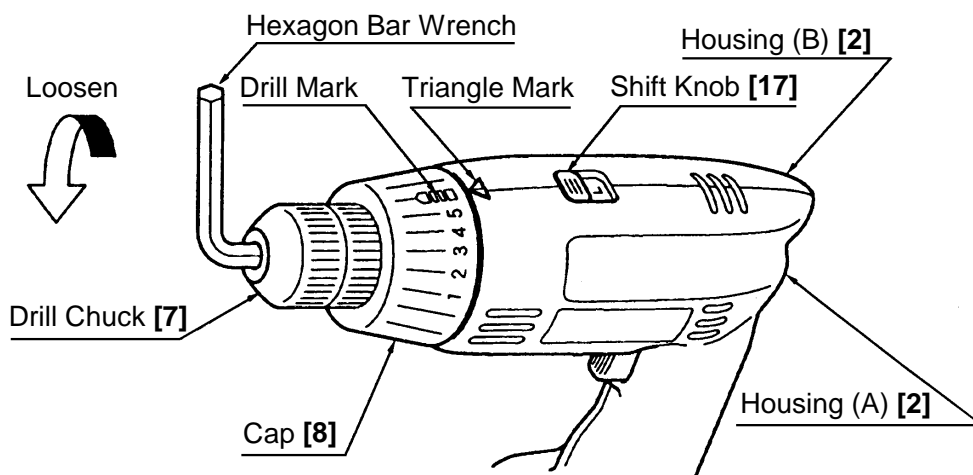

Fig. 7
(1) Removing the Drill Chuck **[7]**. (See Fig.7.)
(d) Put a M10 hexagon bar wrench in the Drill Chuck **[7]** as indicated in Fig. 7 and gently knock the hexagon bar wrench with a wood hammer so that the Drill Chuck **[7]** is rotated counterclockwise when the unit is viewed from the Drill Chuck end. When the Drill Chuck **[7]** mount becomes loose, remove the Drill Chuck **[7]** by turning it counterclockwise by hand.